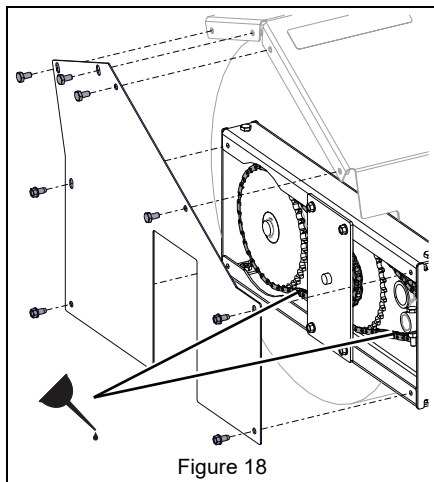

Figure 18
1. Remove hardware retaining left brush cover and remove cover. See Figure 18.